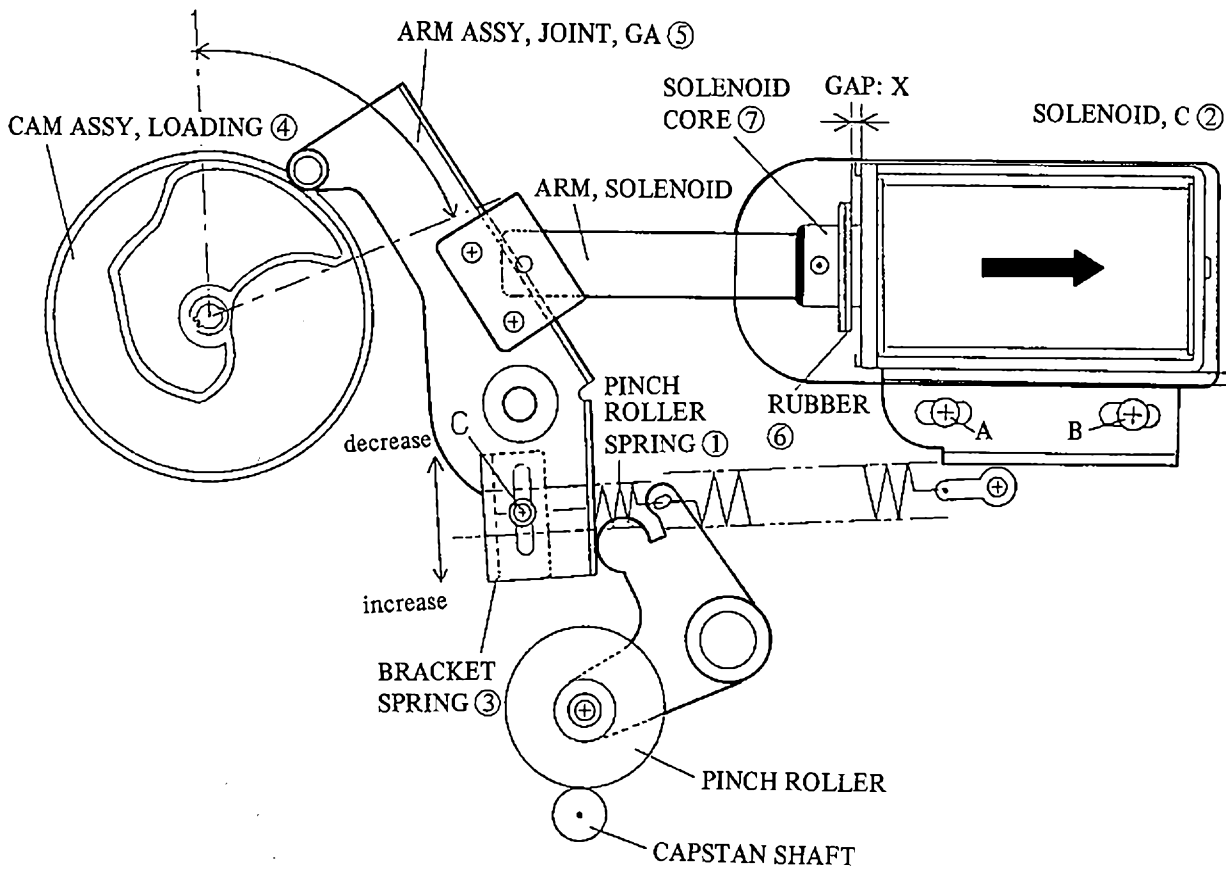

Fig. 4.4
- 6) If the reading is off specification, loosen the screw C and move the BRACKET, SPRING ③ in direction of arrow shown in Fig. 4.4.
- 7) Turn off the power of G24S and rotate the CAM ASSY, LOADING ④ by hand until the CAM ASSY, LOADING ④ and ARM ASSY, JOINT, GA ⑤ reach the point within the arrow marked area as shown in Fig. 4.4.
- 8) At this condition, adjust the position of SOLENOID, C ② so that there is no gap X produced between the RUBBER ⑥ and SOLENOID, C ②. Then, holding both SOLENOID CORE ⑦ and SOLENOID, C ② and push the SOLENOID CORE ⑦ slightly to the arrow direction to eliminate the further play of the SOLENOID CORE ⑦ maintaining the engagement of CAM ASSY, LOADING ④ and ARM ASSY, JOINT GA ⑤ and then tighten the two screws A and B.